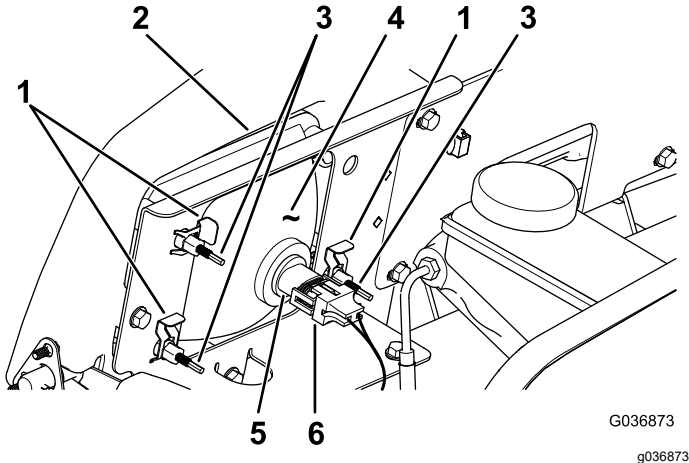

Figure 52
3. Disconnect the electrical connector for the harness from the connector of the lamp assembly (Figure 52).
4. Remove the speed clips that secure the headlight to the headlight bracket (Figure 52).
5. Remove the headlight assembly by moving it forward through the opening in the front bumper (Figure 52).
6. Install the new headlight through the opening in the bumper (Figure 52).
8. Connect the electrical connector for the harness to the connector of the lamp assembly (Figure 52).
2. At the back of the headlight assembly, rotate adjustment screws (Figure 52) to pivot the headlight assembly and align the position of the cast beam.